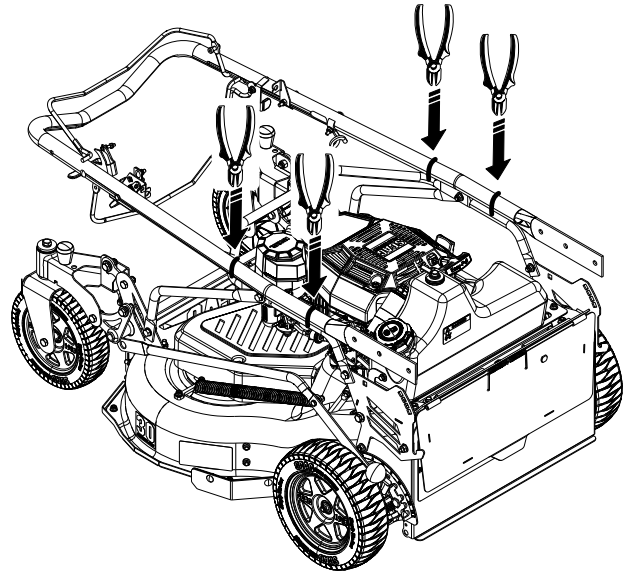

Figure 1-3. Removing from Packaging
2. Using a side cutters, cut the four (4) zip ties securing the handle bars to the top of the mower. See Figure 1-3.